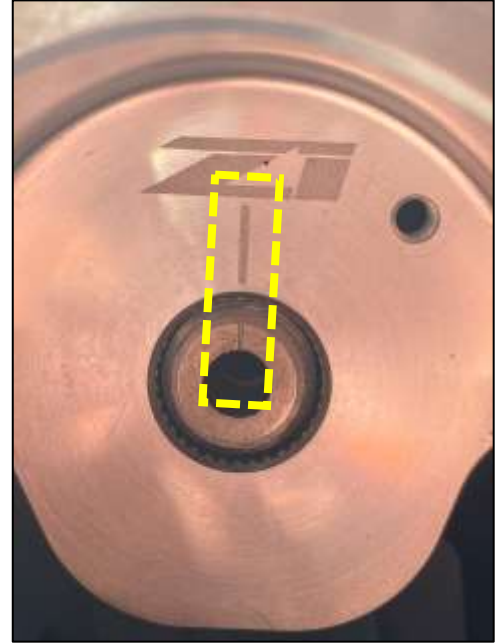

Figure 13
1. Locate the Steering Wheel Hub Adaptor. Place the Z1 Steering Wheel Hub Adaptor on the Steering Shaft. Feed the Horn Wire, Button Control Wire, and the Airbag wires through the openings. Line up the Dash on the Steering Hub Adaptor with the Dash on the Steering Shaft Splines. *Figure 13.*